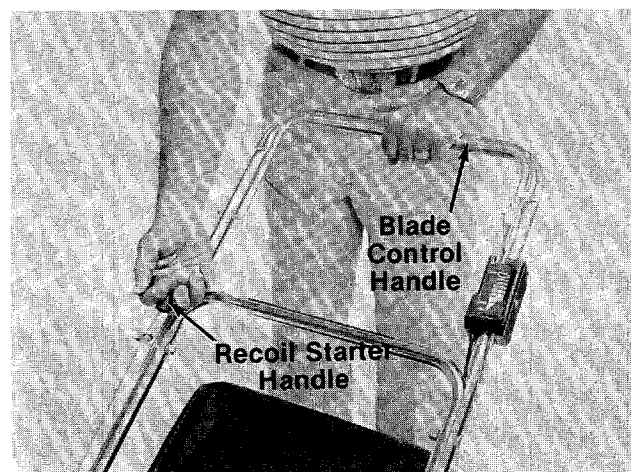

FIGURE 19.
23. **Check the engagement rod adjustment.** Disconnect the spark plug wire from the spark plug and ground it against the engine. Standing behind the unit, depress the blade control handle and hold it against the upper handle as shown in figure 19. Pull the recoil starter handle without raising the mower handle. If the mower does not move forward, adjustment is correct. If the mower moves forward, remove the ferrule locking ring from the ferrule and thread in or out one turn. Repeat the above check as necessary.
3. Standing behind the unit, depress the blade control handle and hold it against the upper handle as shown in figure 19.